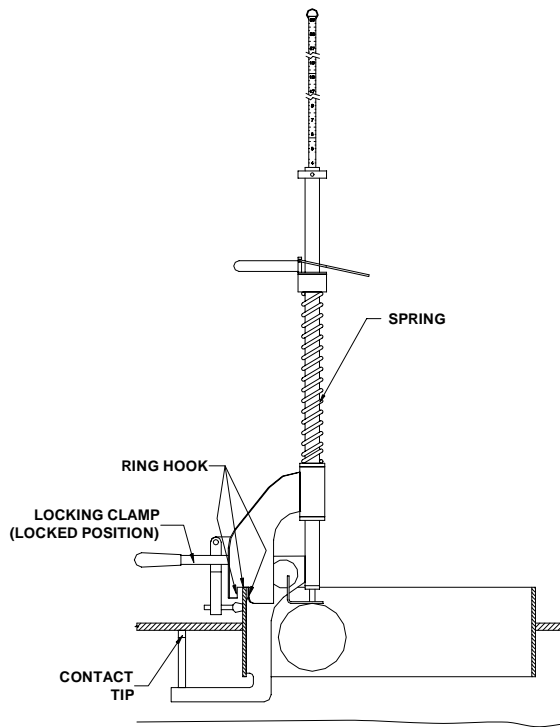

FIGURE 1
- 2) See Figure 1. Begin installation with the manway cover open, the Quick Gauge spring uncompressed, and the locking clamp in the unlocked position.